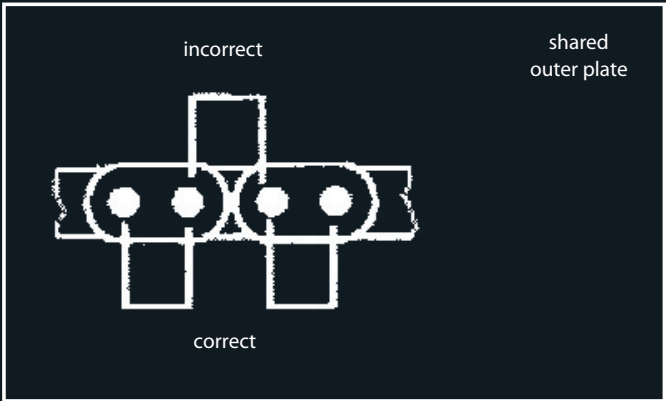

Fig.2
- With most motorcycles, it is only possible to assemble a new chain without having to remove the link when the chain is open. When using an endless chain, this must first of all be disconnected. To disconnect, two neighbouring bolts that have a shared outer plate as shown in Figure 2 must be pressed out.